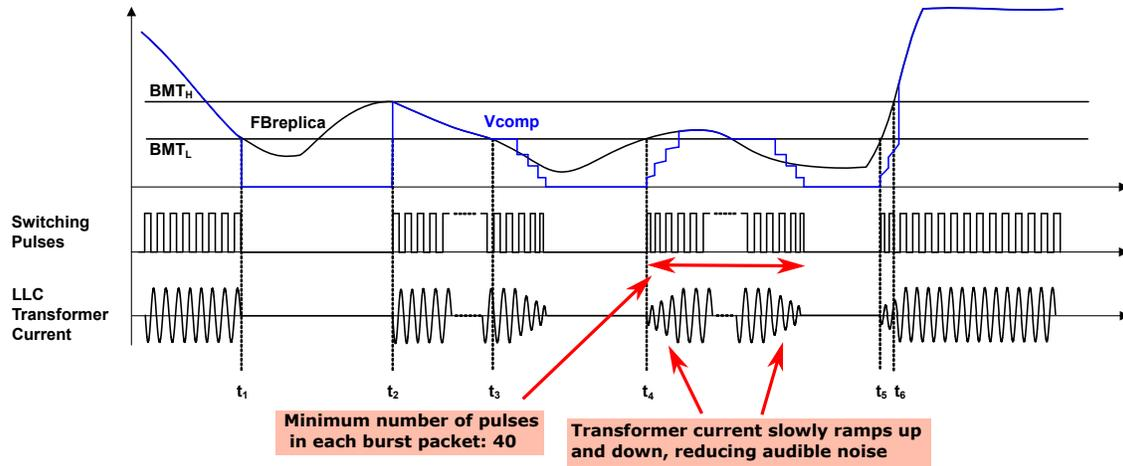

Figure 2-25. With Burst Soft On and Soft Off with Minimal 40 Pulses
UCC256403 and UCC256404 uses the burst pattern shown in Figure 2-25 with minimal 40 pulses where burst soft on and soft off are enabled. This burst soft-on and soft-off can effectively help to minimize the audible noise during burst mode operation.
- During the first 7 steps and last 7 steps of the burst packets (as shown in Figure 2-25), Vcomp uses a smaller value to generate ramped resonant current in UCC256403 and UCC256404 devices.